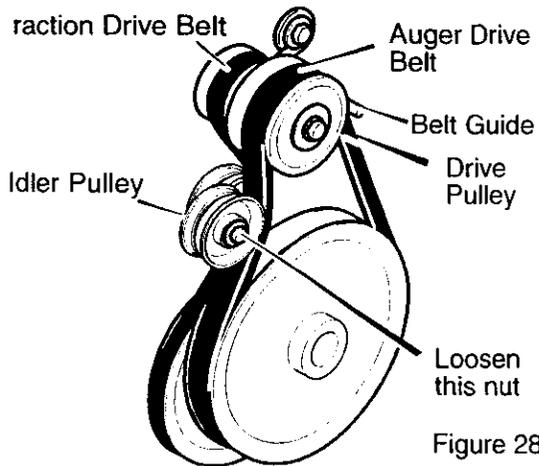

Figure 28
- Loosen the **nut** on the **idler pulley** and move the pulley toward the belt about 1/8". See Figure 28.
6. Loosen the **belt guide**. Pull the **belt guide** away from the **auger drive pulley**. See Figure 28.